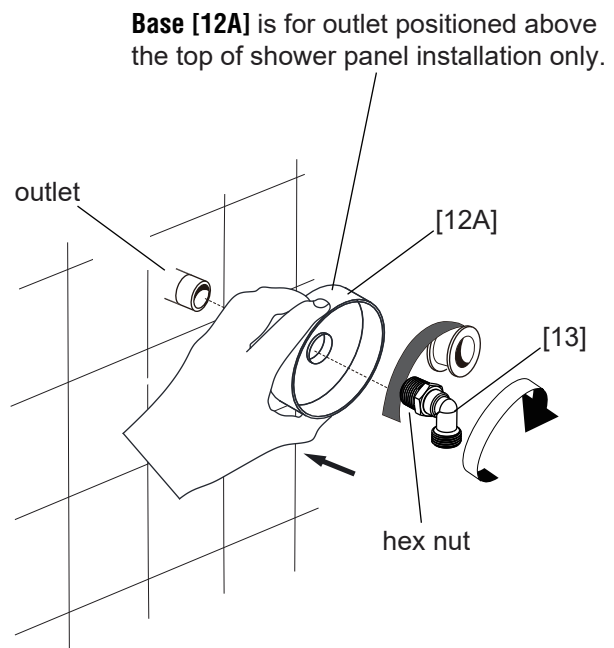

Fig 5.2
- 5-2** Slide the **Base [12A]** on to the **outlet**. The deeper side of the **Base [12A]** faces outside. Install the longer shank of **Nipple [13]** to the outlet and tighten it. Use plumbing tape to ensure good sealing performance. (Fig 5.2)